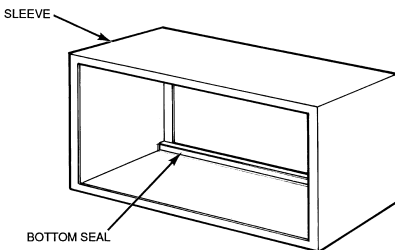

Fig. 7--Remove Bottom Seal From GE Plastic Sleeve
**GE Plastic Sleeve**--Remove bottom seal from plastic sleeve. See Fig. 7.